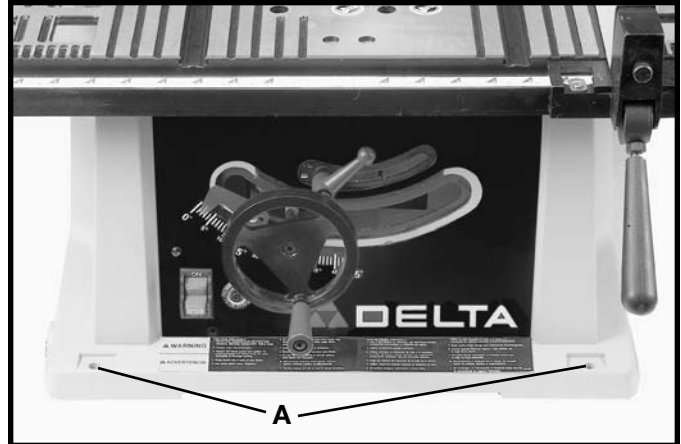

Fig. 19
The saw **MUST** be properly secured to a supporting surface using the four mounting holes, two of which are shown at (A) Fig. 19.